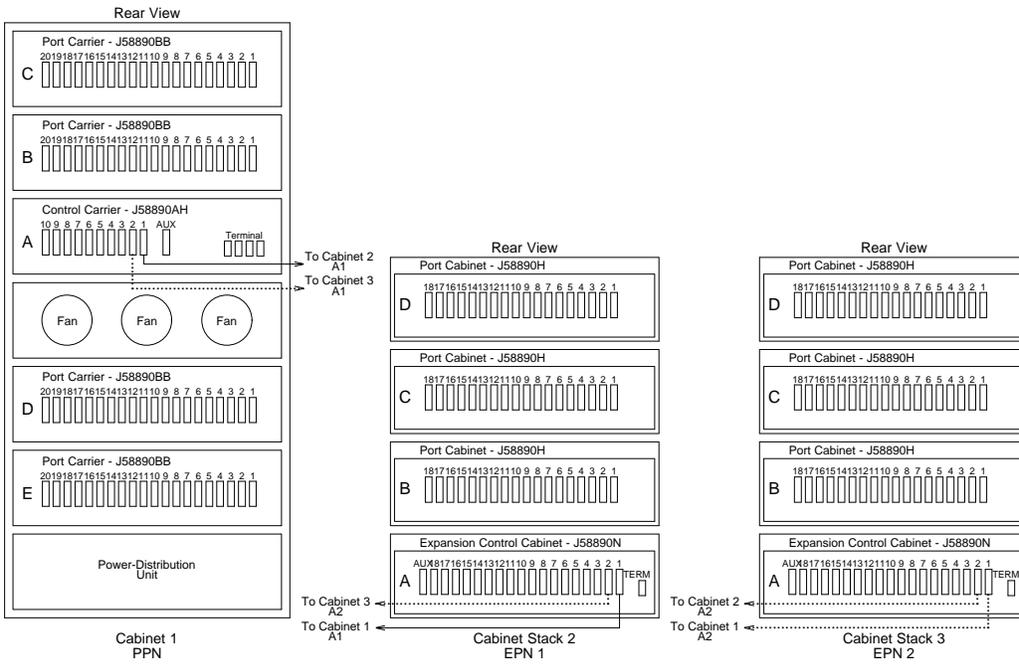
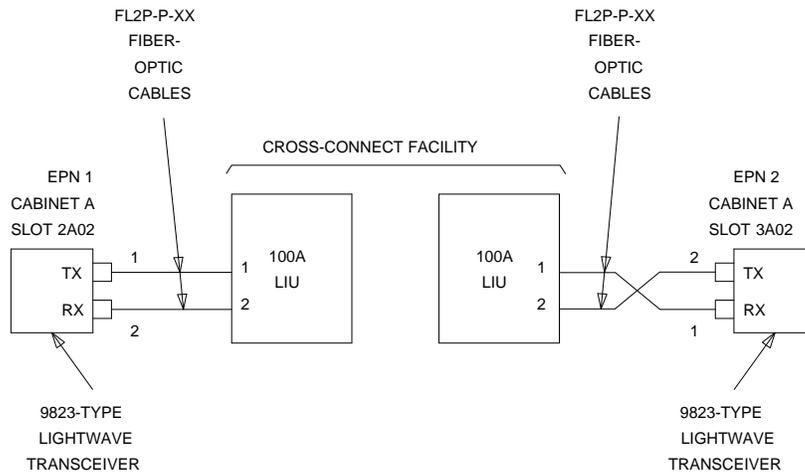

Figure 8-12. Standard-Reliability G3i V4 with Two or Three Port Networks
Figure 8-15. Fiber-Optic Connections EPN1 to EPN2
1. Behind control carrier A of the multicarrier PPN (see Figure 8-12 through , Figure 8-15):